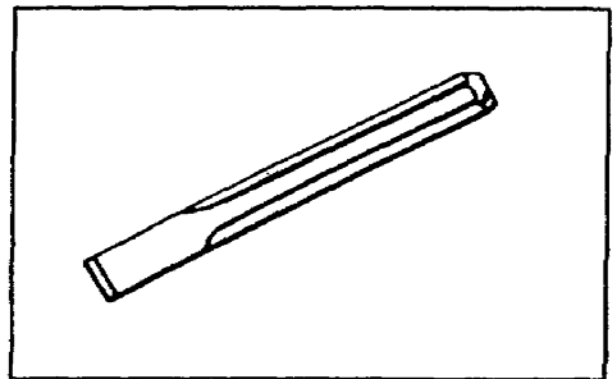

Figure 3-8. Cold chisel (3/4 inch)
e. Cold Chisels. Cold chisels (Figure 3-8) are used to chip paint or scale from metal surfaces, and the chisels are available in different widths and lengths. Chisels are sharpened by grinding their heads on a grinding wheel to restore the bevel, which is usually at a 60- to 70-degree angle. Occasionally, you may need to remove the burrs from the heads if the heads have mushroomed.